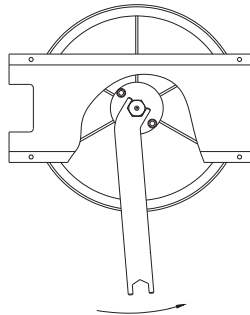
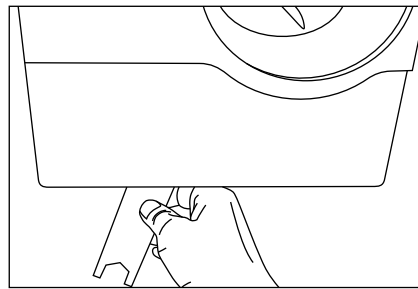

Fig 1
Fig 2
7.5.2 Insert the spanner tool in the gap beneath the plastic cover; use the spanner to grip the adjusting nut (Fig. 1). Turn the nut anti-clockwise shown in the figure below (Fig 2). This will tighten the sealing plate.